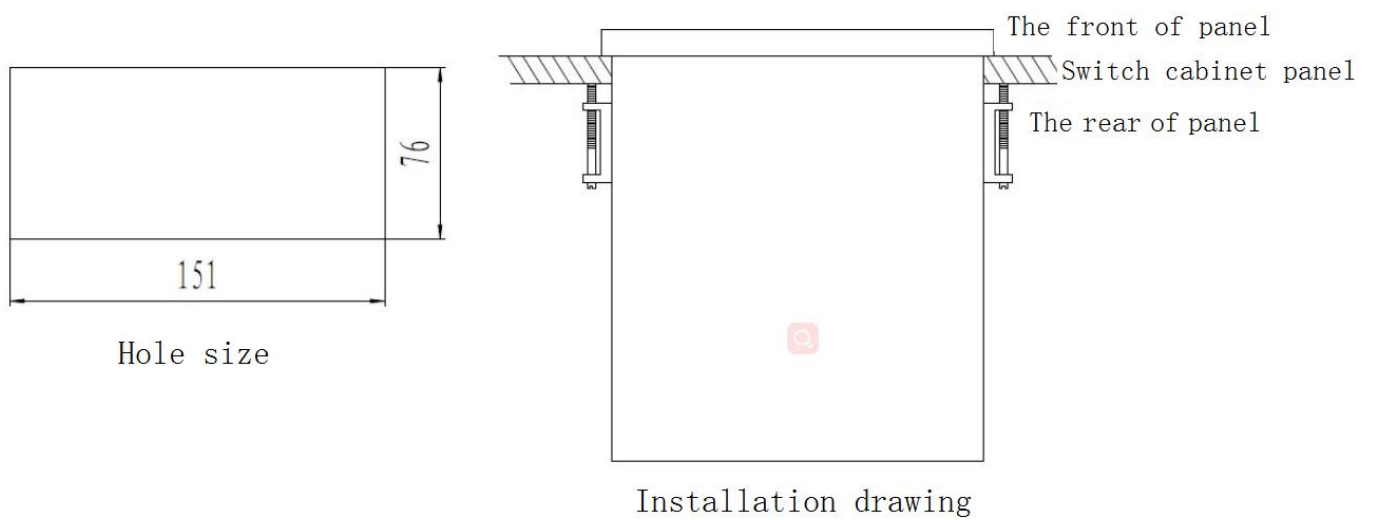

Figure 4 Installation dimension
4.2 Installation dimensions as Figure 4